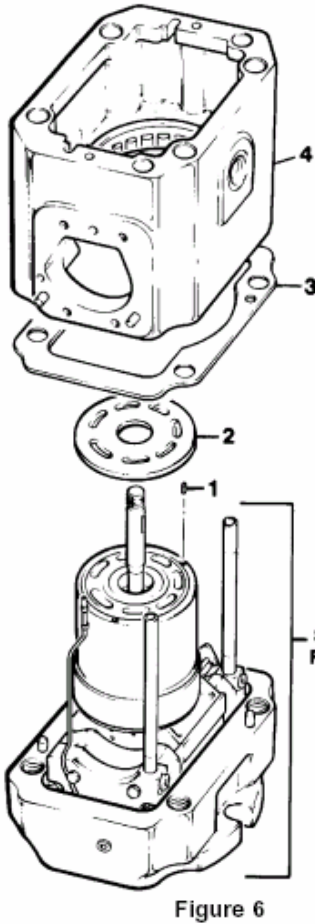

Figure 6
**See Figure 6.** Install the three face plate pins (1) in the holes provided in the barrel face.
**PARTS LIST FOR FIGURE 6**
| 6    | Housing/flange assembly              | Fig. 6     | 1    |